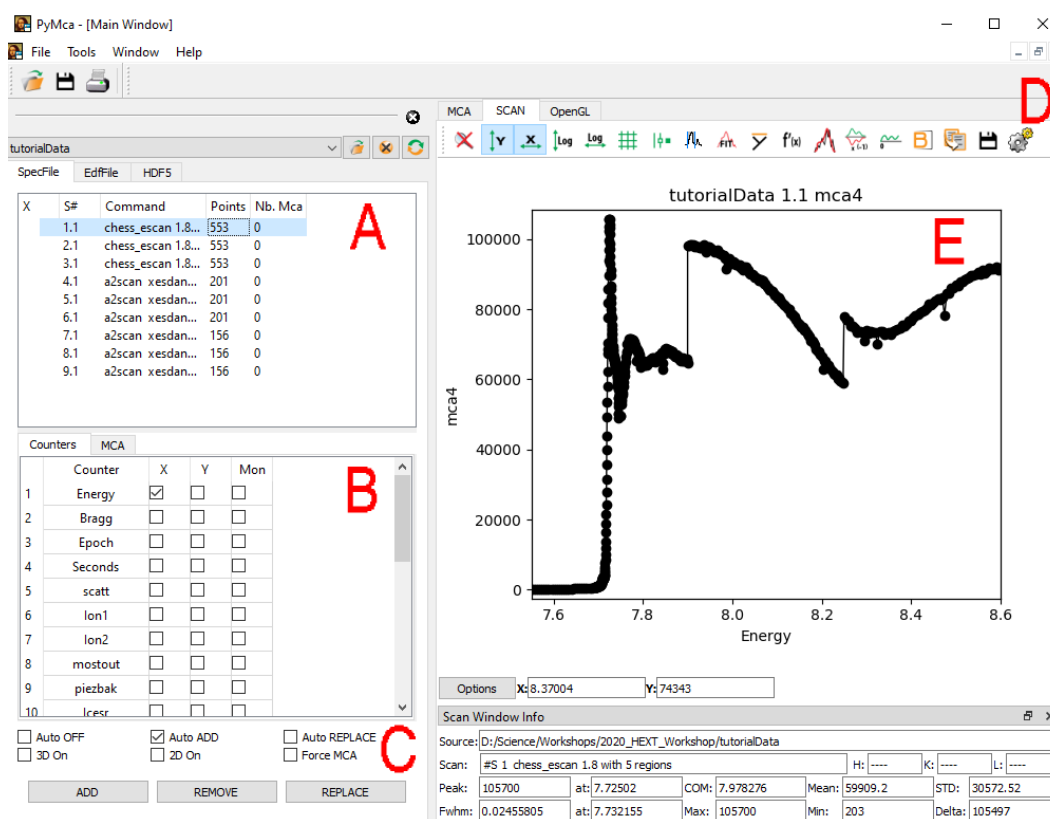
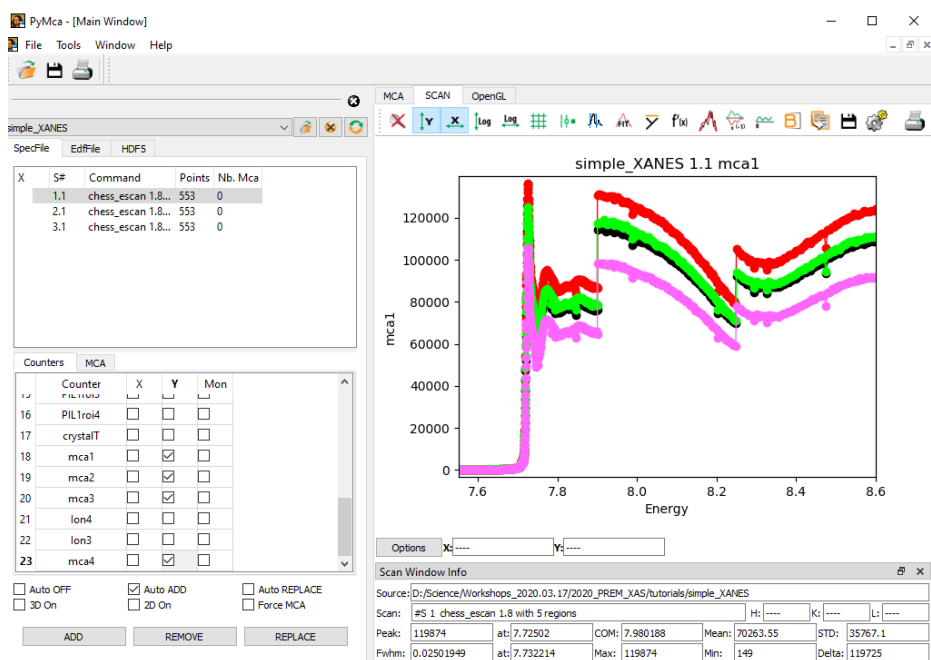

Figure 1-3: The most useful places of the PyMCA window are highlighted.
Figure 1-7: The four elements of the Vortex detector are now plotted in PyMCA.
- 3) This file contains several different spectral scans, including both XAS and XES, which we'll go through sequentially during this tutorial. With the file open, go ahead and click on the first line shown in Figure 1-2 (the one beginning with "1.1"). PyMCA should update to plot something in panel E (don't worry if your plot doesn't match Figure 1-3). Before we go any farther, let us first explore the PyMCA window a little bit. Using the labels from Figure 1-3, the following are useful locations within PyMCA:
- 4) PyMCA allows for data to be quickly displayed and manipulated in a variety of ways that are useful when looking at x-ray spectra. Many of these useful tools and functions are easily accessible in panel D, shown in Figures 1-3 and 1-4. We'll be using several of these soon, so below are more detailed descriptions of what the various buttons do (Figure 1-5).
These buttons control the x- and y-axis autoscaling; when clicked (as they are in Figure 1-3), the axes will automatically adjust their limits to accommodate newly added spectra.
- 7) Our Vortex detector has four separate elements, each of which can collect fluorescence signal. This means that the detector records four spectra each time we do an energy scan, quadrupling the signal we can collect (some beamlines have detectors with 30 or even 100 element detectors!). In PyMCA, these four detector elements have their data each saved to separate channels (**mca1**, **mca2**, **mca3**, and **mca4**) and we can plot each one individually. To do this, go into panel B of the PyMCA window and make sure that “Energy” box is checked in the “X” column, as it is in Figure 1-3. After that is done, scroll farther down in panel B until you find the rows labeled mca1, mca2, mca3, and mca4 (they’re at the bottom) and check each of those boxes in the “Y” column. When you’re done, the PyMCA window should look like Figure 1-7.